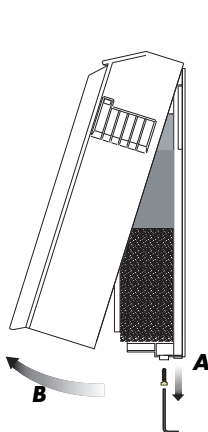

Fig. 1
- Turn the screwed fitting in the base of the housing by means of the internal hexagonal key provided with the unit (Fig. 1/A).